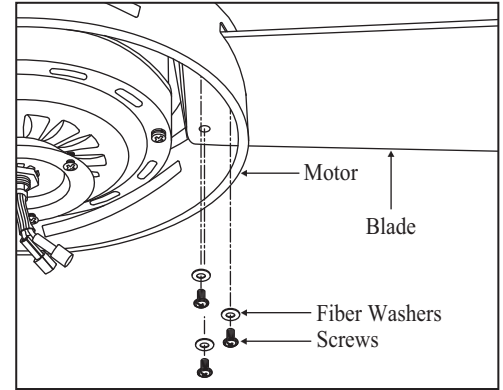

Figure 15
3. Align the holes from the blade to the holes from the motor and secure in place with screws and fiber washers provided. (Fig. 15)